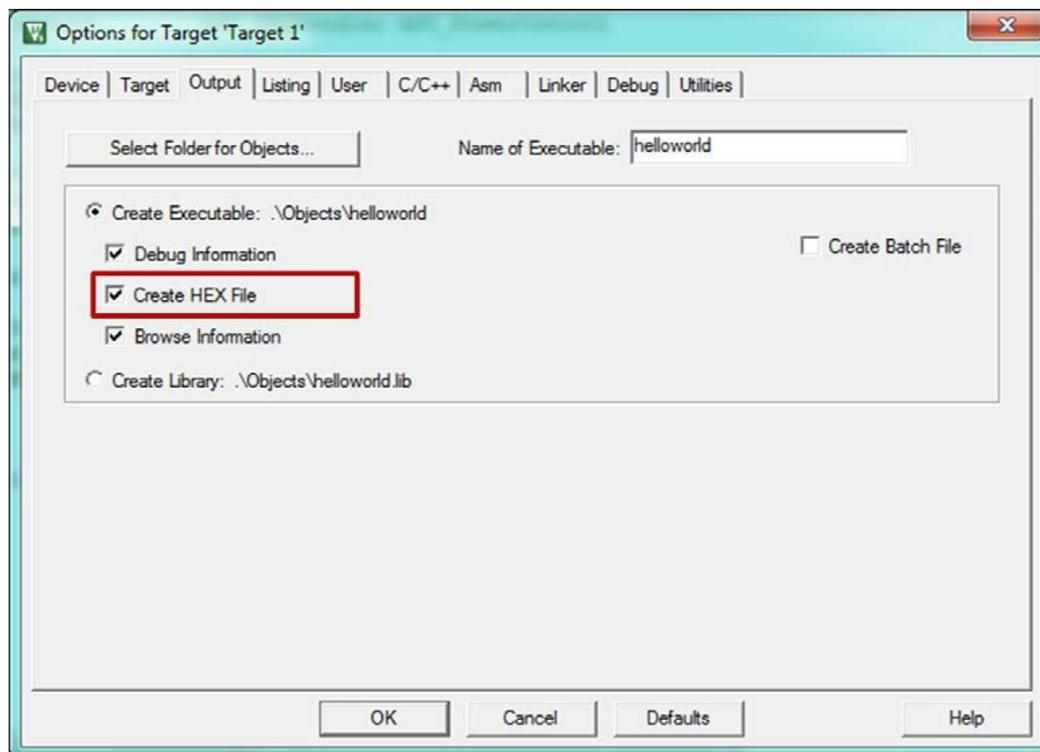

Figure 2: Output Options
3. In the **Options** dialog box, on the **Output** tab, check **Create HEX file** (Figure 2), and click **OK**